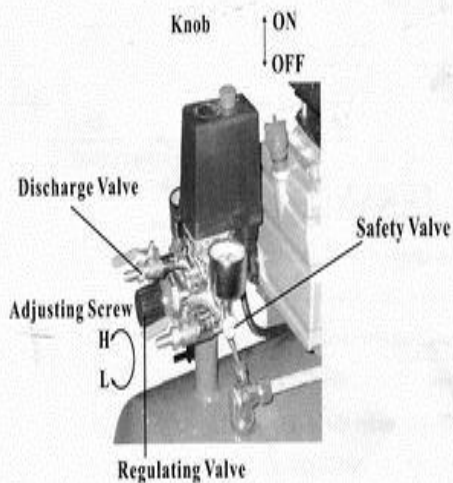

Fig.2
- (1) The place to set the compressor should be clean, dry and ventilated.
- (2) Keep the use voltage within $\pm 5\%$ of rated.
- (3) Keep the oil level in the red circle leveler.
- (4) Recommend compressor oil use SAE30 or L-DAB 100 over 10°C , and use SAE10 or L-DAB68 below 10°C .
- (5) Open the outlet valve, set the knob of pressure switch in position on (Fig.2), let the compressor run 10 minutes with no load to ensure lubricating the moving parts before regular service.
- (1) The compressor is controlled by pressure switch when normal working. It can be stopped automatically as pressure increasing to the maximum and restart as pressure decreasing to the minimum. The rated pressure has been adjusted when produced. Don't change it carelessly. As soon as motor switched off the compressed air in the discharge pipe should be released through the release valve under the switch. This is the necessary condition for restart, or the motor will be damaged. The rated pressure can be adjusted by turning the adjusting bolt of the switch (Fig.2).
- (2) The output pressure of compressed air can be adjusted by regulating valve (Fig.2).
- (3) When the compressor in running need to be stopped, only set the knob of pressure switch in position off.